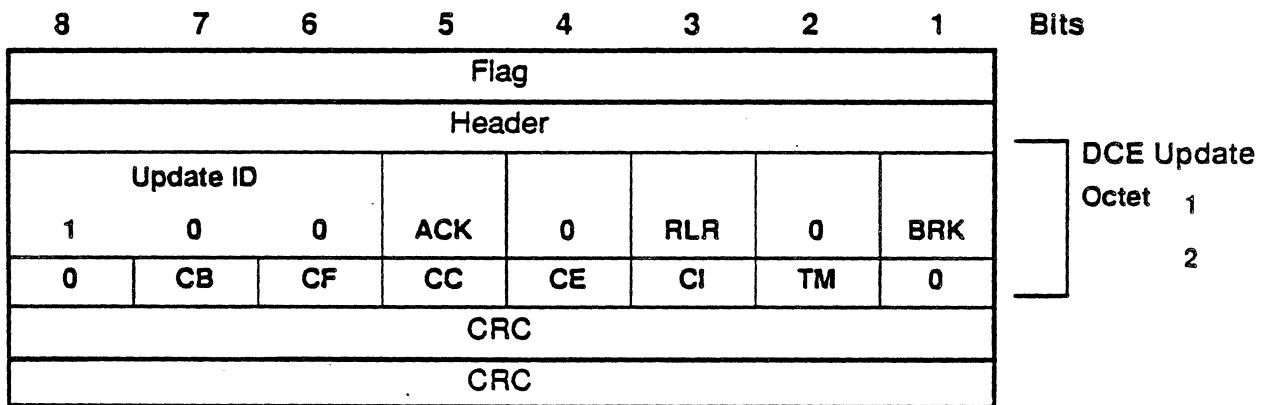

Figure 15.5: DTE Update Message Format
- *DTE Updates* are sent by PBX data endpoints when the devices connected to them require a DTE interface. The format of a DTE Update is shown in Figure 15.5.